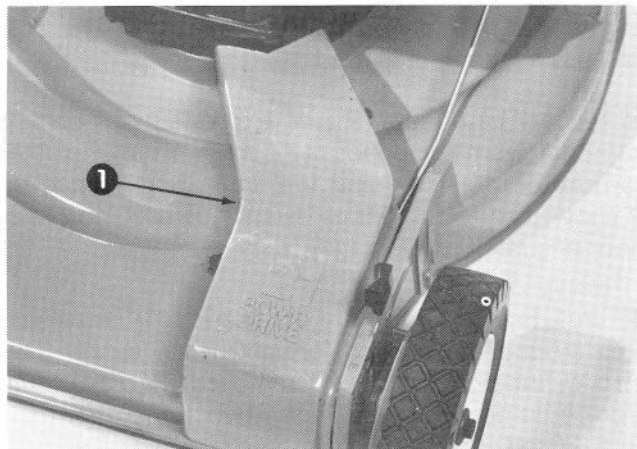

Figure 34
2. Remove two screws holding POW-R-DRIVE COVER (Fig. 34) and put cover aside.